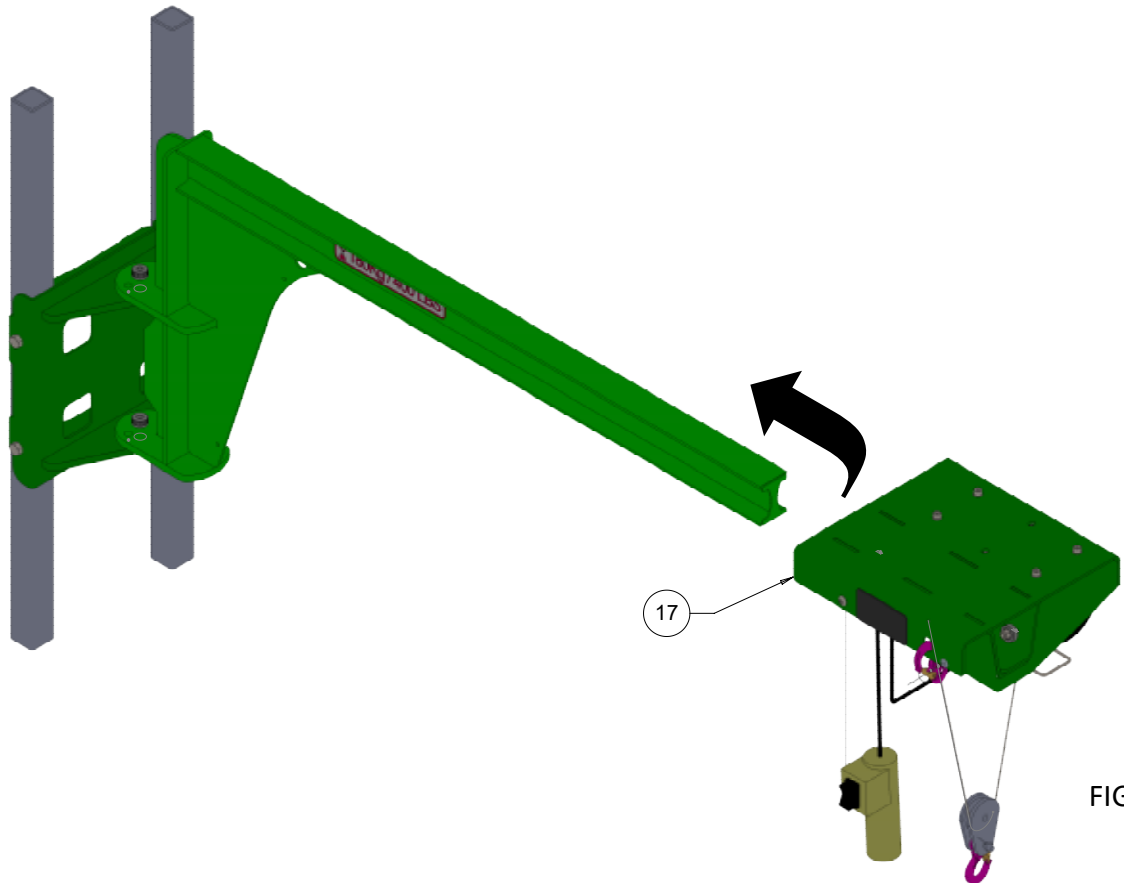

FIG. 5
- Attach the trolley sub-assembly (Item 17) to the boom by sliding the trolley onto the end of the boom arm until the bearings go past the end cap on the boom. Lower the trolley sub-assembly until all (4) bearings are resting on the lower web of the I-beam. (FIG. 5).